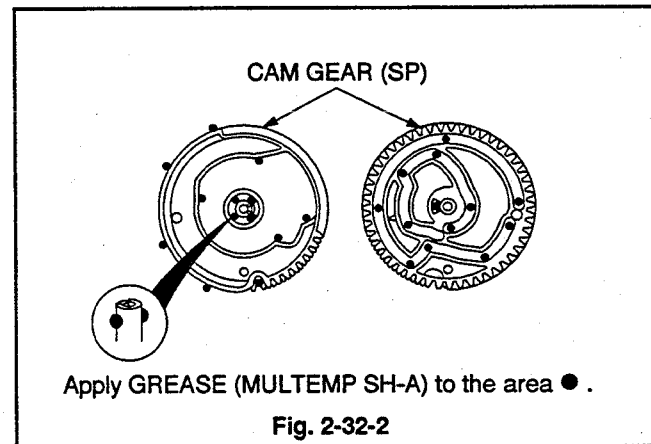

Fig. 2-32-2
1. Apply GREASE (MULTEMP SH-A) [859D055O80] to the area specified in Fig. 2-32-2 on the new CAM GEAR (SP).